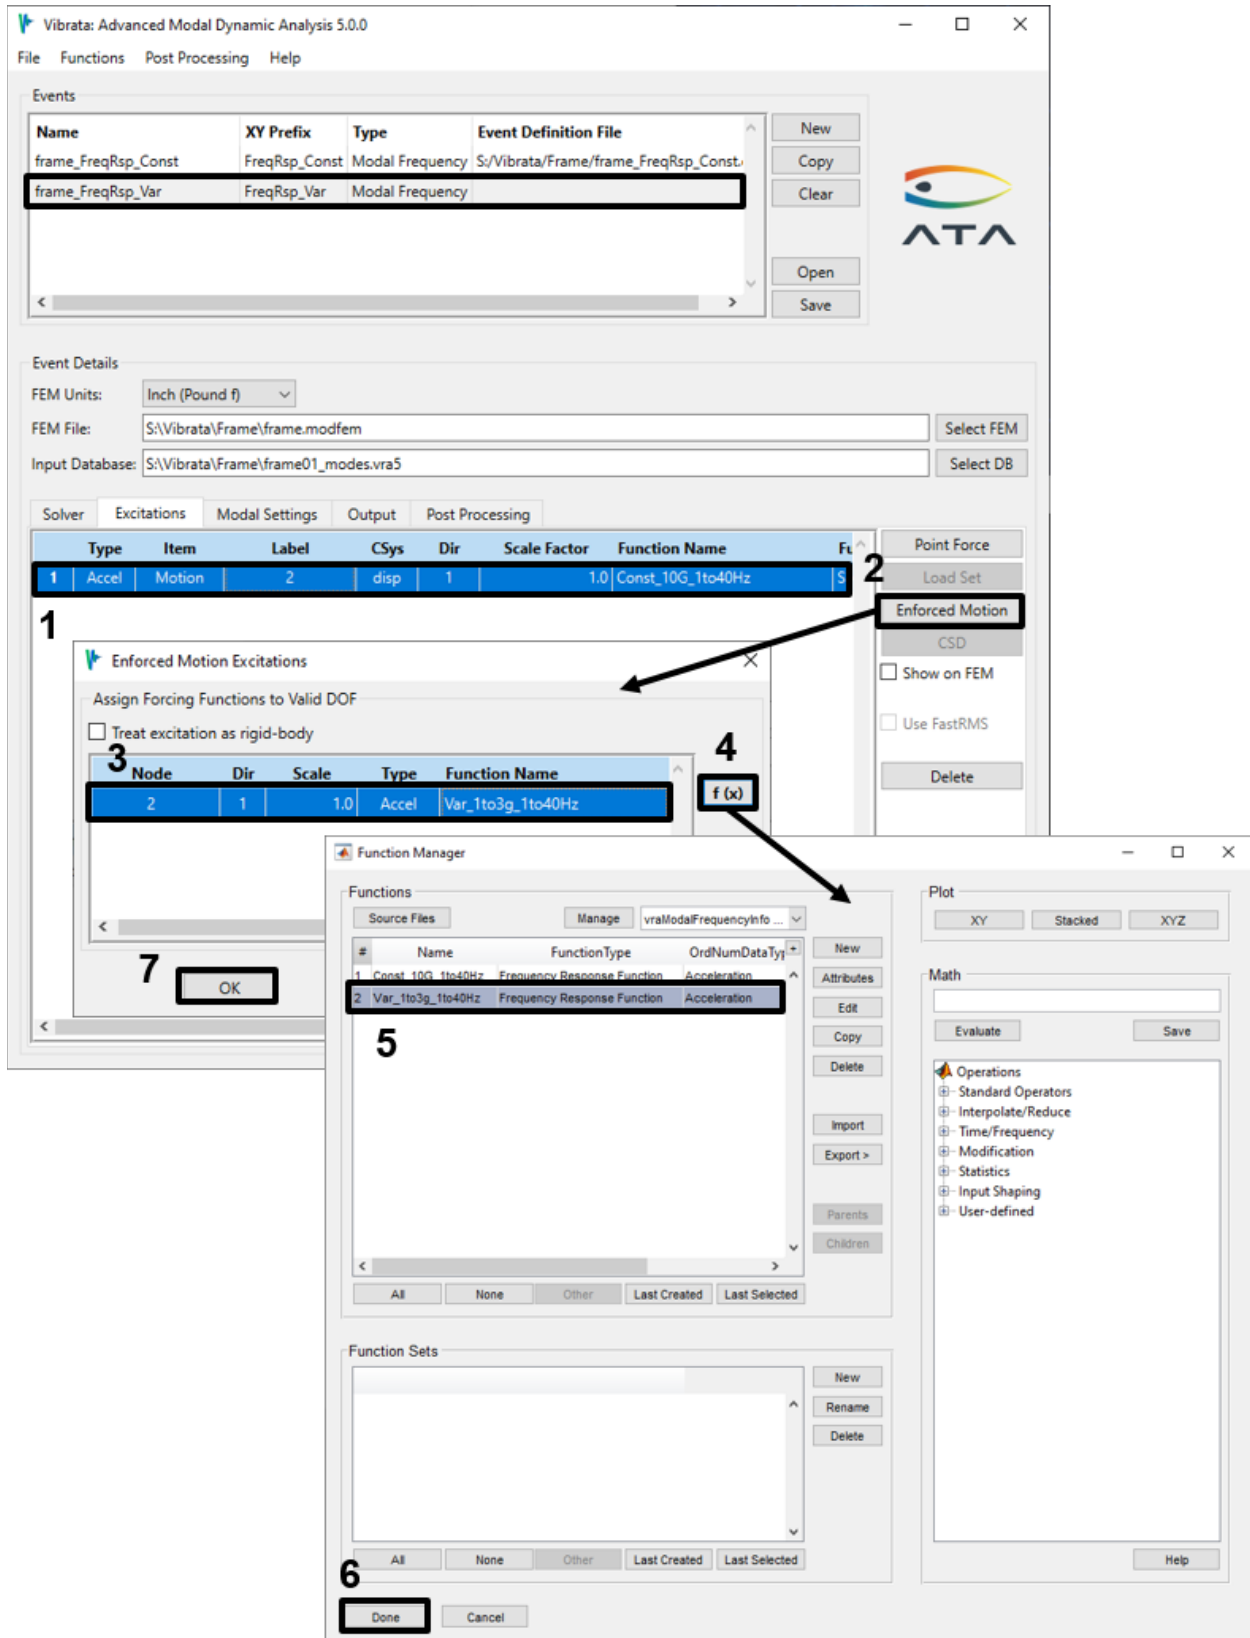

Figure 4-34. For the new (copied) event, delete the old excitation and create a new one.
- c. With the new event selected, go to the *Excitations* tab, select the existing excitation, and edit it by clicking on **Enforced Motion**. Select the variable-amplitude forcing function (Figure 4-34).